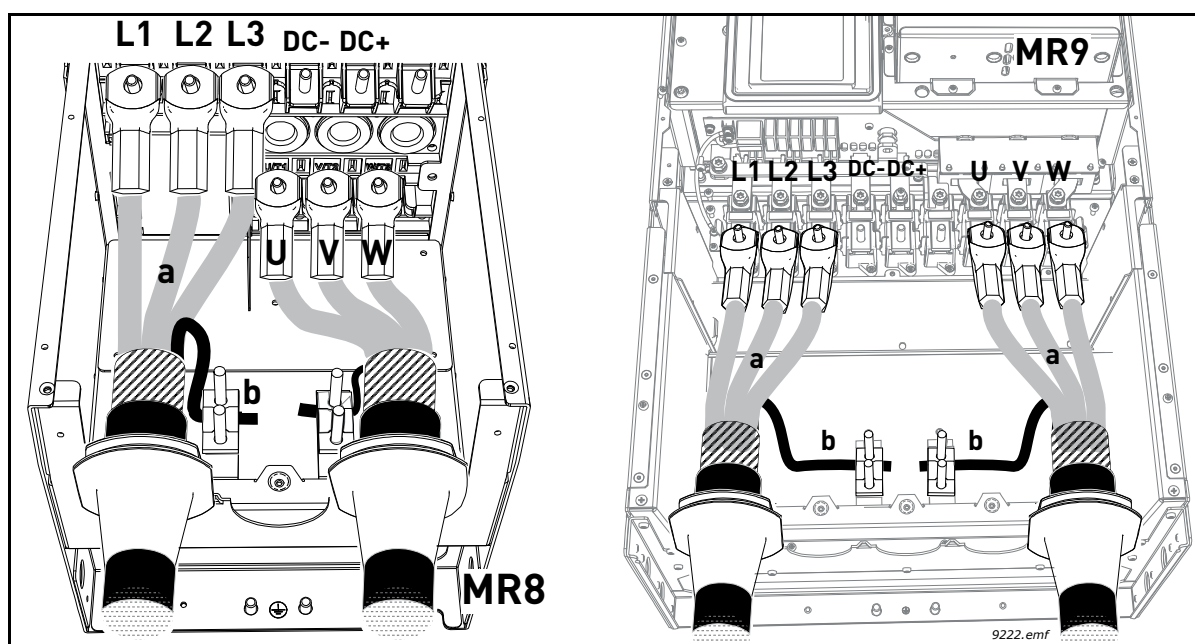

Figure 39.
- Form the rest of the cable shield of all cables into “pigtails” and make a grounding connection as shown in Figure 39 (b) using the clamp from the *Accessories bag*.